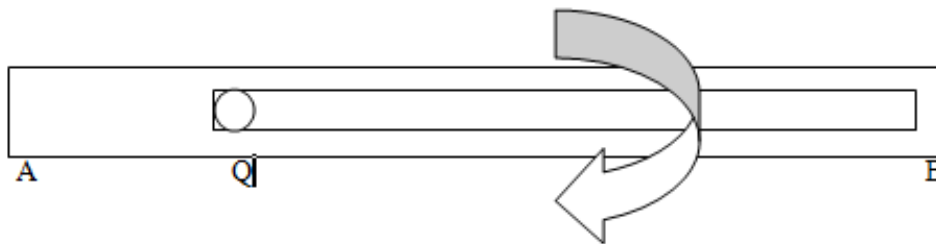

Figure 5
- b) **Figure 5** shows a slotted link AB which rotates in clockwise direction as a round ball at Q rolls in the slot towards B. If the link makes two complete revolutions as the ball rolls from Q to B, plot the path traced by the ball. Name the path traced and state the application of such paths in engineering. (10 marks)